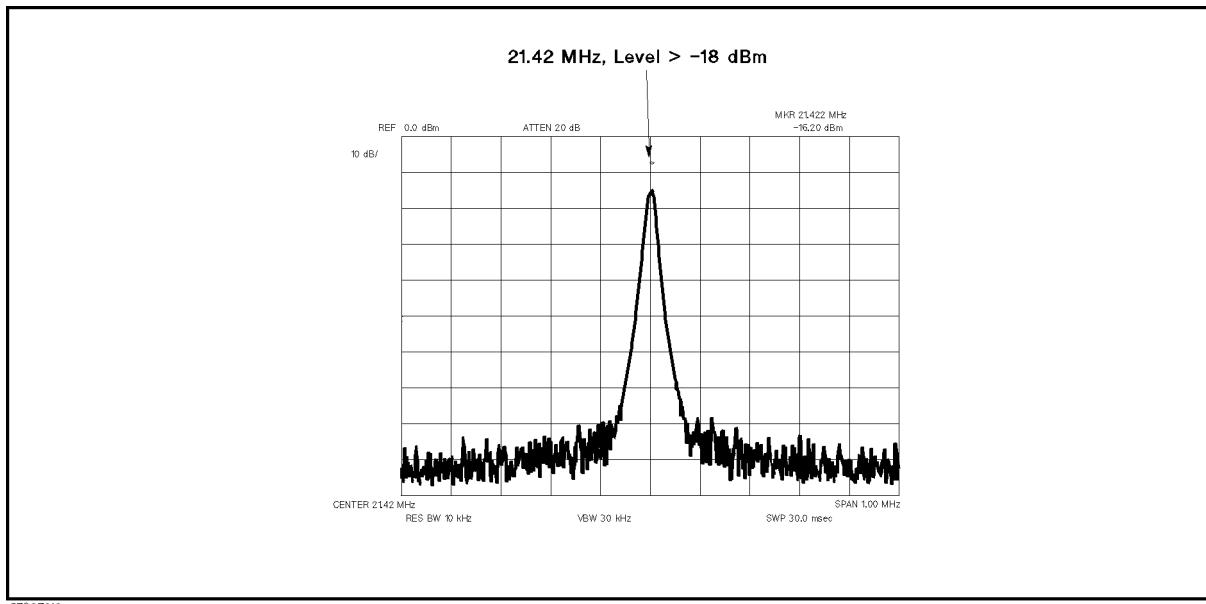

Figure 7-18. Typical 21.42 MHz Signal
f. Check that the frequency is 21.42 MHz and the level is higher than – 18 dBm. The displayed trace should be as shown in Figure 7-18.